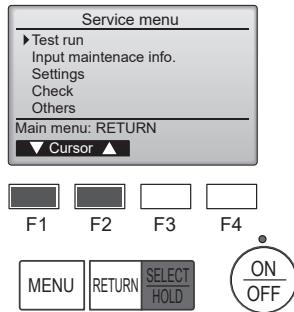

Fig. 6-3
- ③ Select "Test run" with the [F1] or [F2] button, and press the [SELECT/HOLD] button. (Fig. 6-3)